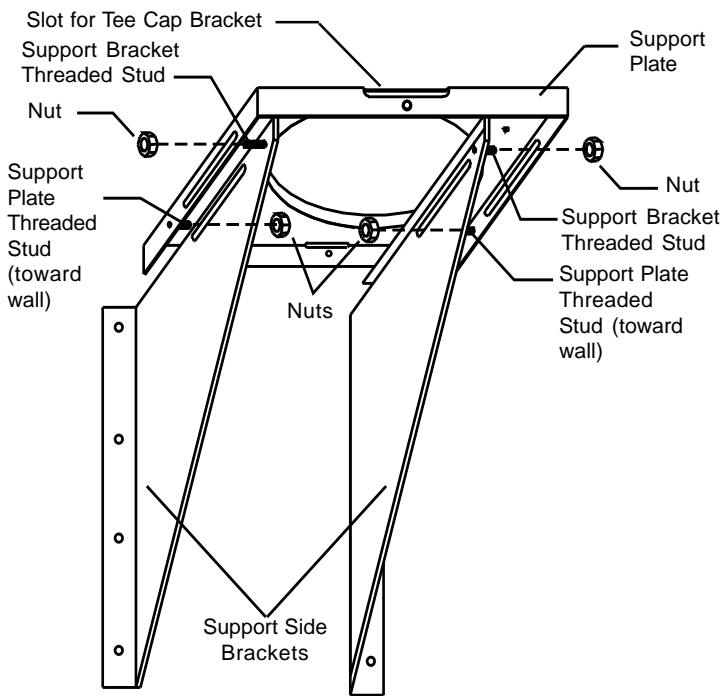

FIGURE 11
The Wall Support will allow for an adjustment of 2" to 6" from a vertical wall. Threaded studs are factory installed on both side brackets and the support plate for fast and easy assembly (see Figure 11).
5. Assemble the 2 side Brackets (point of triangle facing down) to the Support Plate (flange up and threaded stud towards the wall) by inserting the threaded studs into the oblong slots (see Figures 11 & 12). Install the supplied nuts on the threaded studs until snug, do not tighten at this time as adjustments may be required. Set aside and prepare the support bracing to secure the side brackets as per the Framing Dimensions in Section B of Table 3 and Figure 9 (B).